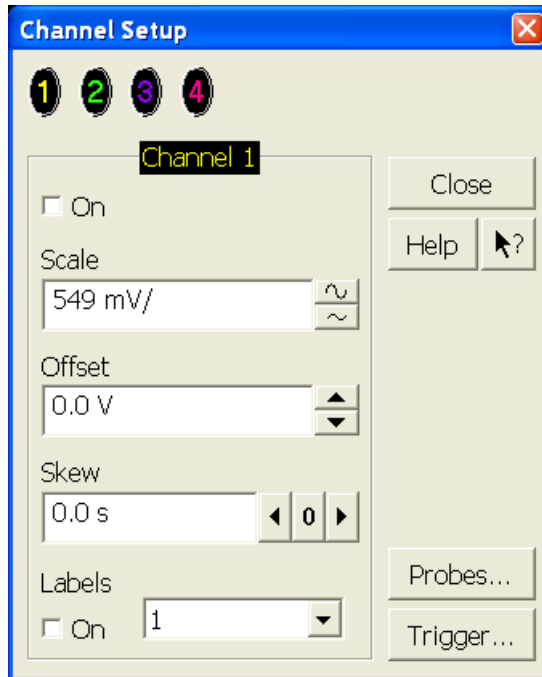

Figure 44 Channel Dialog Box
- 2 In the Channel Setup dialog box, select the Probes... button, as shown in Figure 44.